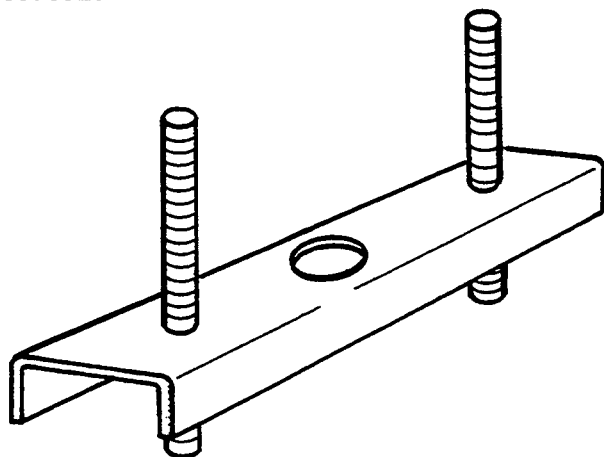

Fig. 24
- Secondary planetary carrier holding tool, ref. 3376920M1 (Fig. 24)